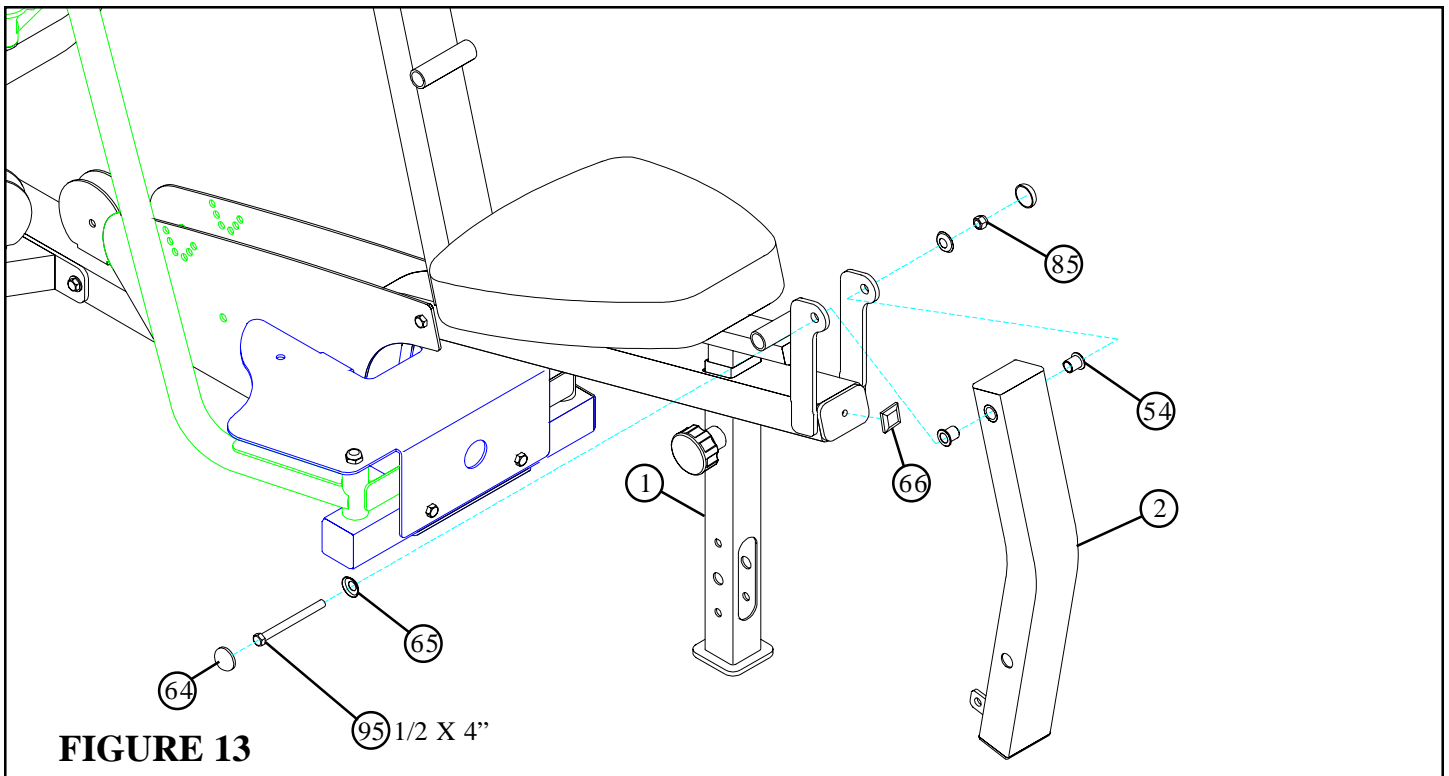

FIGURE 13
- Insert two 1/2" FLANGE BEARINGS (54) into the the LEG PEDESTAL (2) as shown in FIGURE 13.
- Assemble the LEG PEDESTAL (2) to the FRAME (1) using two RH CAPS (64), one 1/2 X 4" BOLT (95), two 1/2" RH WASHERS (65), and one 1/2" LOW HEIGHT LOCK NUT (85). (**Note: Tighten this connection enough to remove excess play yet allow the LEG PEDESTAL to rotate freely.**)
- Assemble one 1-1/4" RUBBER BUMPER (66) to the FRAME (1) where the LEG PEDESTAL (2) contacts the FRAME (1) as shown in FIGURE 13.